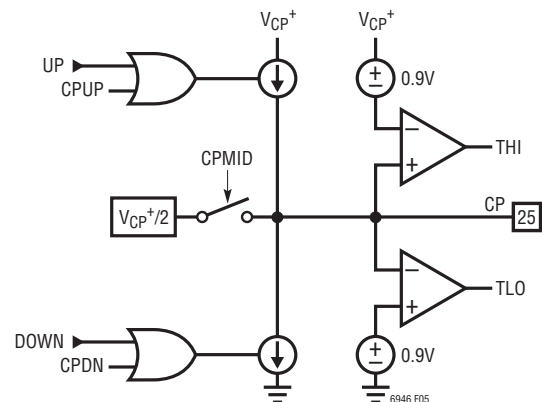

Figure 5. Simplified Charge Pump Schematic
The charge pump, controlled by the PFD, forces sink (DOWN) or source (UP) current pulses onto the CP pin, which should be connected to an appropriate loop filter. See Figure 5 for a simplified schematic of the charge pump.
The CPCHI and CPCLO bits found in register h0A enable the high and low voltage clamps, respectively. When CPCHI is enabled and the CP pin voltage exceeds approximately $V_{CP}^+ - 0.9V$, the THI status flag is set, and the charge pump sourcing current is disabled. Alternately, when CPCLO is enabled and the CP pin voltage is less than approximately 0.9V, the TLO status flag is set, and the charge pump sinking current is disabled. See Figure 5 for a simplified schematic.